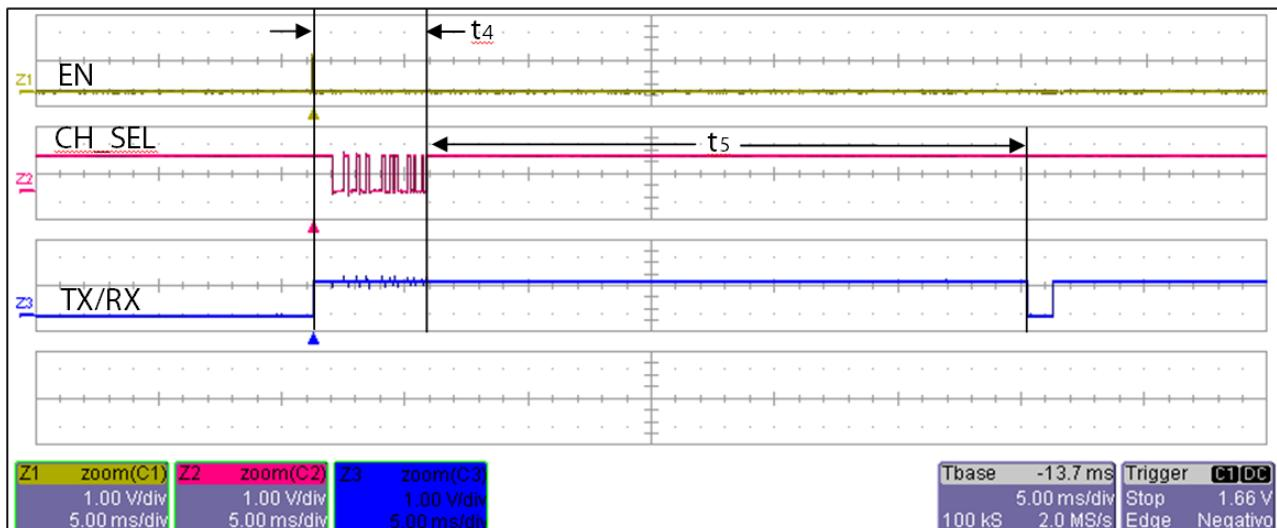

Figure 3: timings. $t_4 < 90$ ms; $t_5 = 7$ ms typ. for the setting of single parameters; $t_5 = 25$ ms typ. for the setting of default parameters.
- Typical time **t5** between command reception and ACK valid for the writing of *single parameters*: **7 ms** (see Figure 3).
- Typical time **t5** between command reception and ACK valid only for setting the *default parameters*: **25 ms** (see Figure 3).